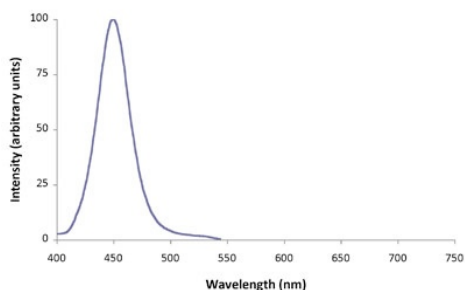
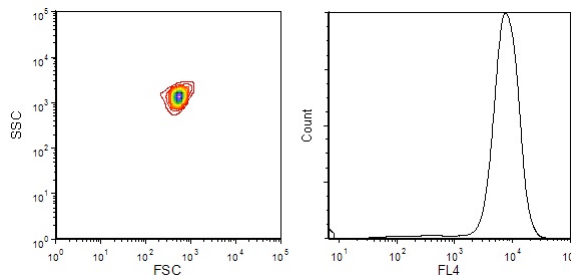

Figure 1. Emission spectrum of Zepto™ Mag Ultra Blue Carboxyl Microspheres.
Figure 2. FSC-SSC plot and fluorescence histogram in the DAPI/Pacific Blue channel of Zepto™ Mag Ultra Blue Carboxyl Microspheres on a flow cytometer.
The emission spectrum is illustrated in Figure 1. They are a suitable for a wide range of fluorescent assays such as flow cytometry-based assays. Their Forward Scatter (FSC) vs. Side Scatter (SSC) plot and fluorescence histogram in the DAPI/Pacific Blue (405 nm excitation; 455 nm emission) on a typical flow cytometer are illustrated in Figure 2.
1. Gate on the single population of microspheres on FSC vs. SSC plot (refer to Figure 2)